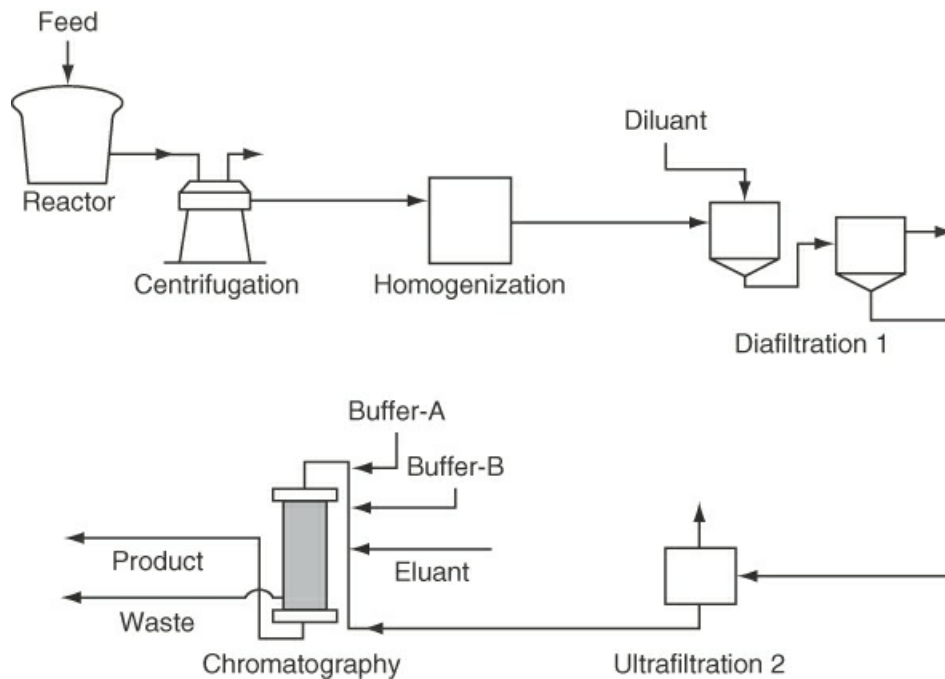

Figure P5.2.3
****5.2.3** Monoclonal antibodies are used to treat various diseases as well as in diagnostic tests. Figure P5.2.3 shows a typical process used to produce monoclonal antibodies. A stirred tank bioreactor grows the cells of the antibody of interest, namely, immunoglobulin G (IgG). After fermentation in the reactor, a batch of 2200 L contains 220 g of the product IgG. The batch is processed through a number of stages as shown in Figure P5.2.3 before the purified product is obtained. In the diafiltration stage, 95% of the IgG entering the filter is recovered; in the ultrafiltration stage, 95% of the entering IgG is recovered; and in the chromatography, 90% is recovered.